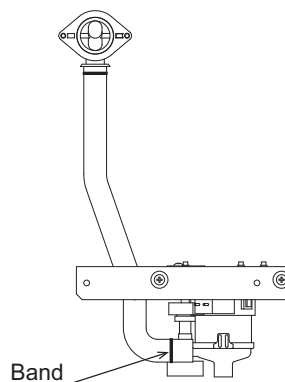

Fig.6
6. Remove the fixing screws and cut the band shown in Fig. 6, by doing so, the drain pump and the float switch can be disassembled.